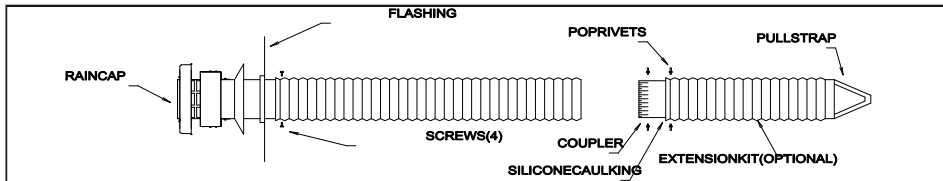

Figure 3
2.4 If required LINER length is more than standard kit, use optional extension kit. A maximum of 1 extension kit may be used per installation. See Figure 3.